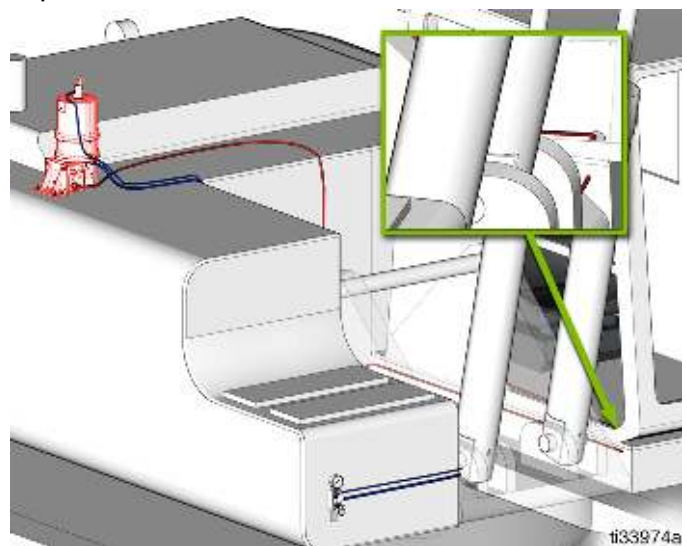

FIG. 13
- The deck plate that surrounds the cab is the preferred installation location (FIG. 13). The deck plate is a non-critical component and drilling through the deck plate is generally acceptable by most manufacturers. However, if this location is not acceptable due to durability or space constraints, identify an alternate location around the cab, such as below the ladder, in the engine compartment or on the frame.